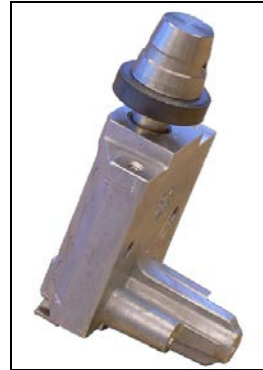

Figure 3-54. Hanger.
- 15. Remove the Service Fixture, releasing the Hanger. (See Figure 3-54.)